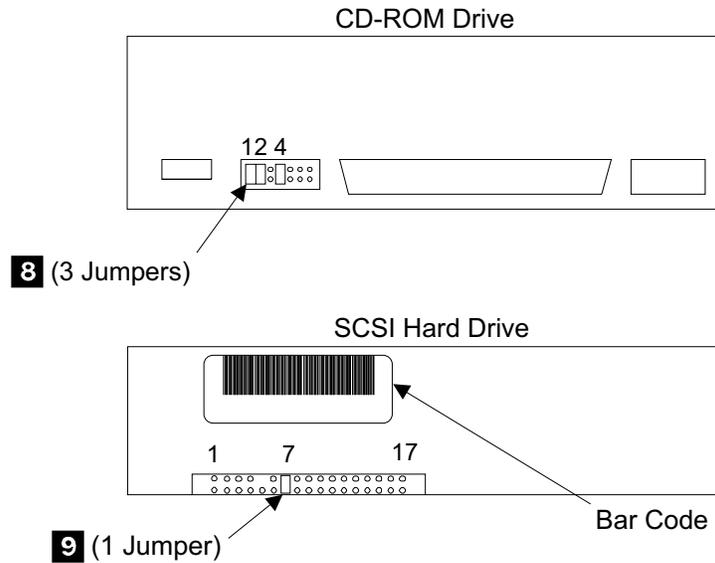

Figure 177. CD-ROM Drive and SCSI Hard Drive Jumpers (S007245m)
- b. When replacing the CD-ROM drive, verify that the three jumpers on the option block (pins 1, 2, and 4) on the rear of the new drive are in the same position, **8** in Figure 177 on page 167, as on the drive you are replacing.
- c. If the SCSI hard drive being installed has option block jumpers as shown in Figure 177 on page 167, verify that a jumper is installed between pins 13 and 14 **9**.